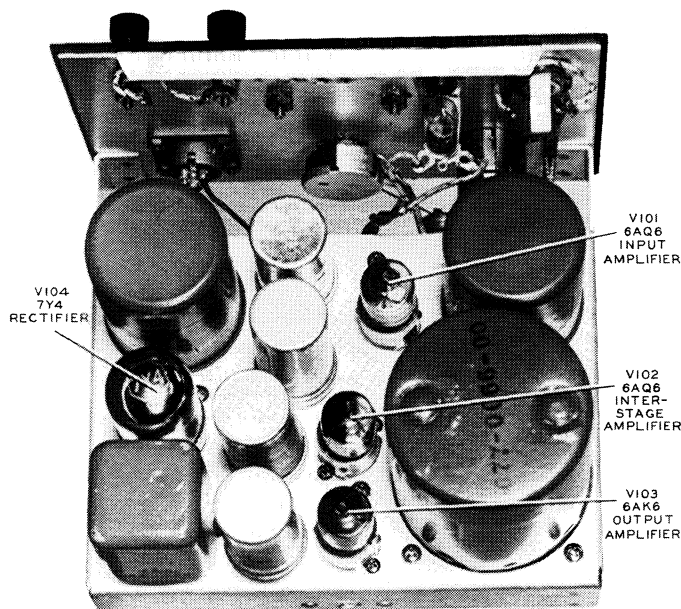

Figure 2-1 Tube Locating Diagram
(2) Insert the tubes in the sockets. Refer to figure 2-1. Check to see that the pilot lamp is screwed firmly into the socket.
(3) The amplifier is supplied to operate with a microphone having an impedance of 50 ohms. For 150 ohm input, remove the two wires from terminals 3 and 6 and connect them to terminals 2 and 7 respectively. For 250 ohm input, connect these two wires to terminals 1 and 8.
(4) Replace the amplifier in cover and fasten in place.
(5) Insert the microphone plug into the MICROPHONE receptacle on the front panel. The two conductors of the microphone cable should be connected to pins 2 and 3 on the plug, and the shield should be connected to pin 1. The 212Y unit is supplied with a cannon type XL-3-13 microphone connector. Adapters are available for other types of connectors. Refer to page 5-7 of the parts list.
(6) Insert the plug, P104, into the POWER receptacle V103 of the 212Y unit.
(7) Connect the outgoing line to the binding posts on the front panel.
(8) Plug the monitor headphone cord plug into the jack on the front panel.
(9) Plug the line cord plug into a source of 110 volts 60 cycle ac. If the pilot lamp lights, it may be assumed that the amplifier is ready for operation.